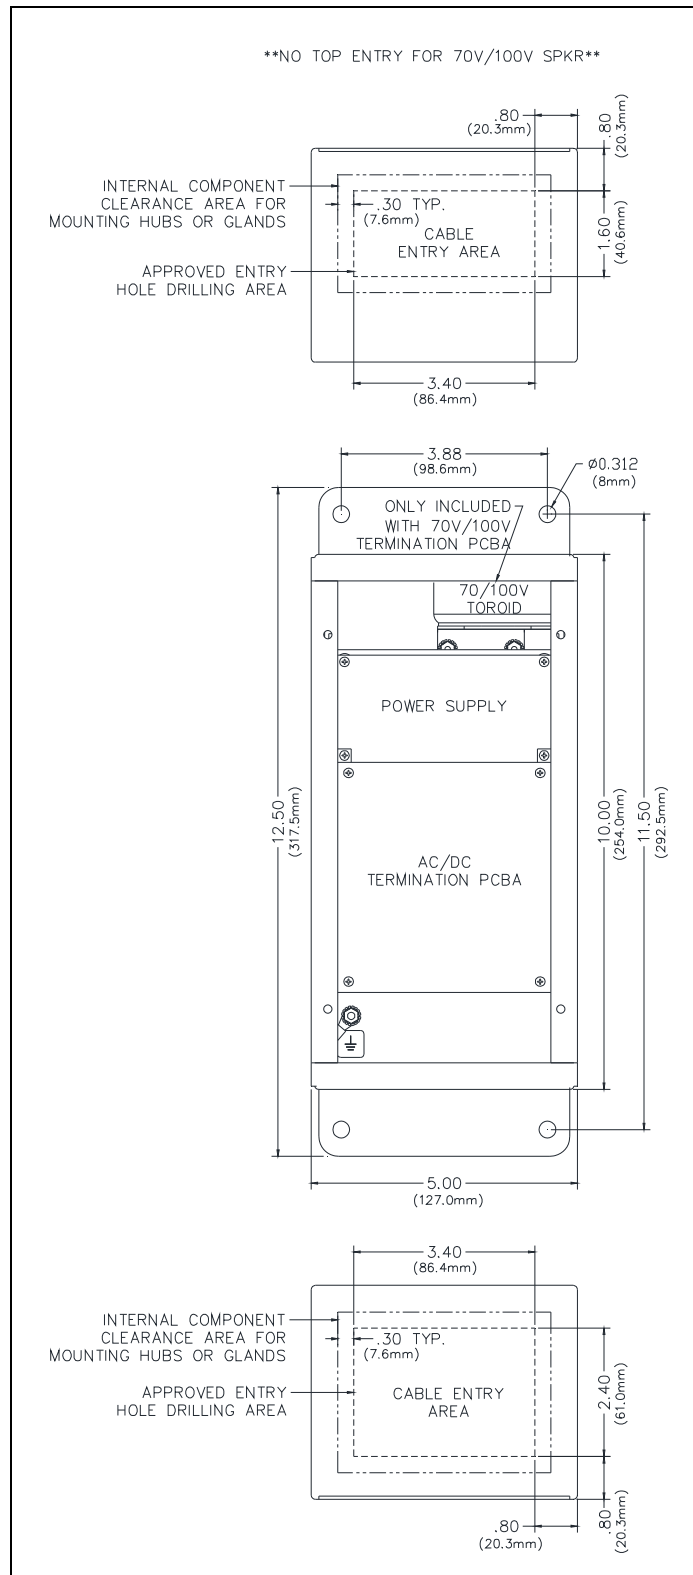

Figure 2. Suggested Wire Entry Locations
1. Mount the enclosure using the four 0.312-inch (8 mm) diameter holes located on the mounting flanges with 1/4-inch (M6) hardware (see Figure 2).
3. Drill or punch entry openings in the rear section of the enclosure (see Figure 2).